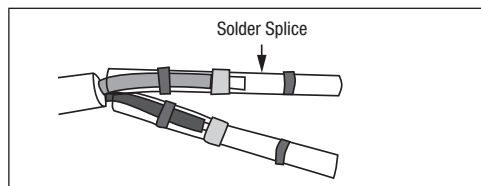

Figure 8. Fit Solder Splice to Wire Ends
5. Fit one of the solder splices to each of the two wires of the old cable. See *Figure 8*.